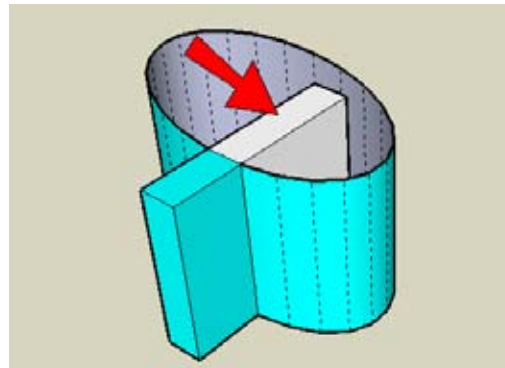

Figure 4-10
4. Erase the top face of the oval cylinder and use Push/Pull with Ctrl/Option again to pull out the inside face of this new box. Extend it almost to the other side (Figure 4-10). One of these vertical faces will be used to create another Follow Me face.